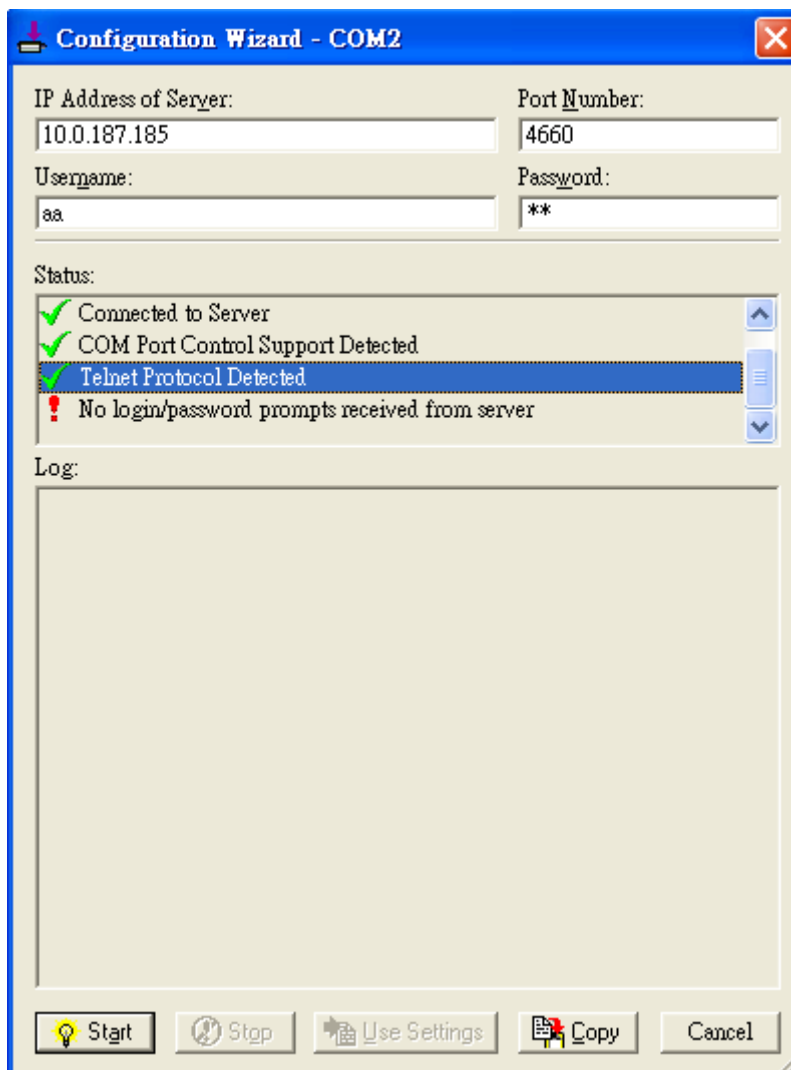

Figure 4.15 Virtual COM Credentials Exception
- f. If the exclamation mark begins with **No login/password prompts received from server** (Figure 4.15), it means credentials in the Serial/IP is enabled, but VirtualCOM Authentication in the serial device server is not enabled.